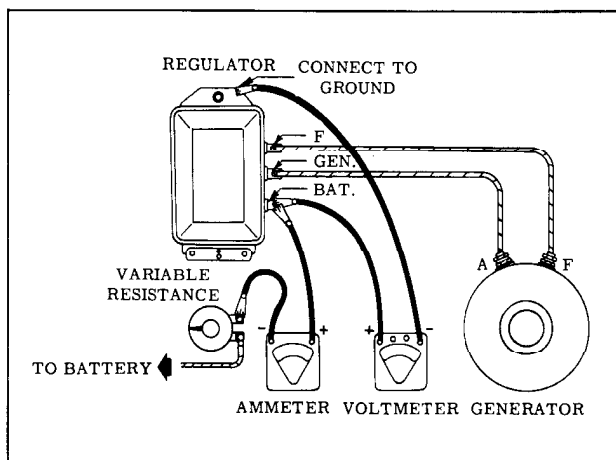

Fig. 13-12 Variable Resistance Voltage Regulator Setting
1. Connect a variable resistance (not less than 25 watts) and an ammeter into the charging circuit at "BAT" terminal of regulator as in Fig. 13-12.